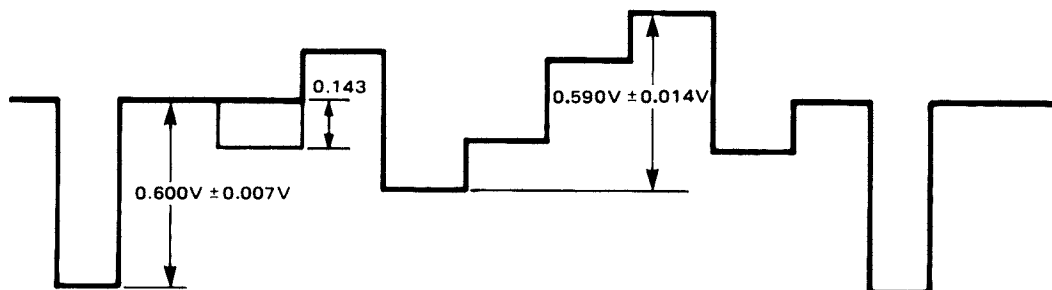

Figure 5-22. I Sync and I Gain Adjustment
- STEP 3 Adjust R98 (I GAIN) so that I output signal is 0.590 Vp-p ± 0.014 V (excluding sync) (Figure 5-22).
- STEP 4 Adjust R95 (I SYNC LEVEL) so that I output sync signal portion is 0.600V ± 0.007 V (Figure 5-22).